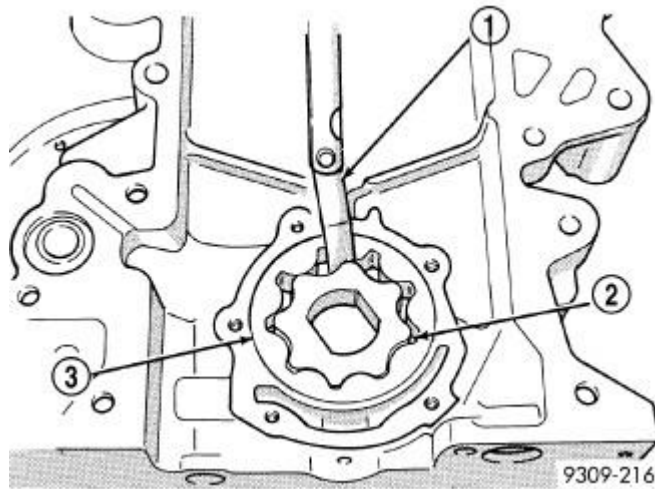

Fig. 178: Measuring Clearance Between Rotors
- Install inner rotor into chain case cover. If clearance between inner and outer rotors is 0.203 mm (0.008 in.) or more, replace both rotors. Refer to **Fig. 178**.